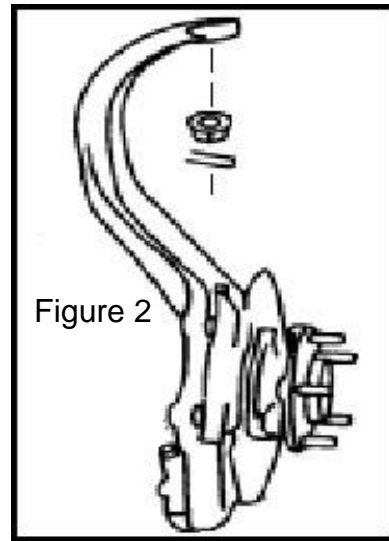

Figure 2
8. Remove nut and cotter pin securing OEM FUCA to steering knuckle (Figure 2).
19. Install M12 washer and M12-1.75 locking nut that attaches Z1 FUCA ball joint to steering knuckle. Torque to 43ft-lbs (Figure 2).